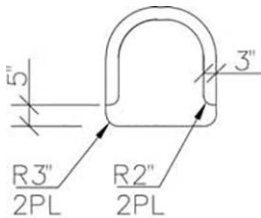

Figure 3-10
Step 25. Use the commands **OFFSET**, **TRIM**, **EXTEND**, and **FILLET** to complete the shape of the chair, as shown in Figure 3-10.